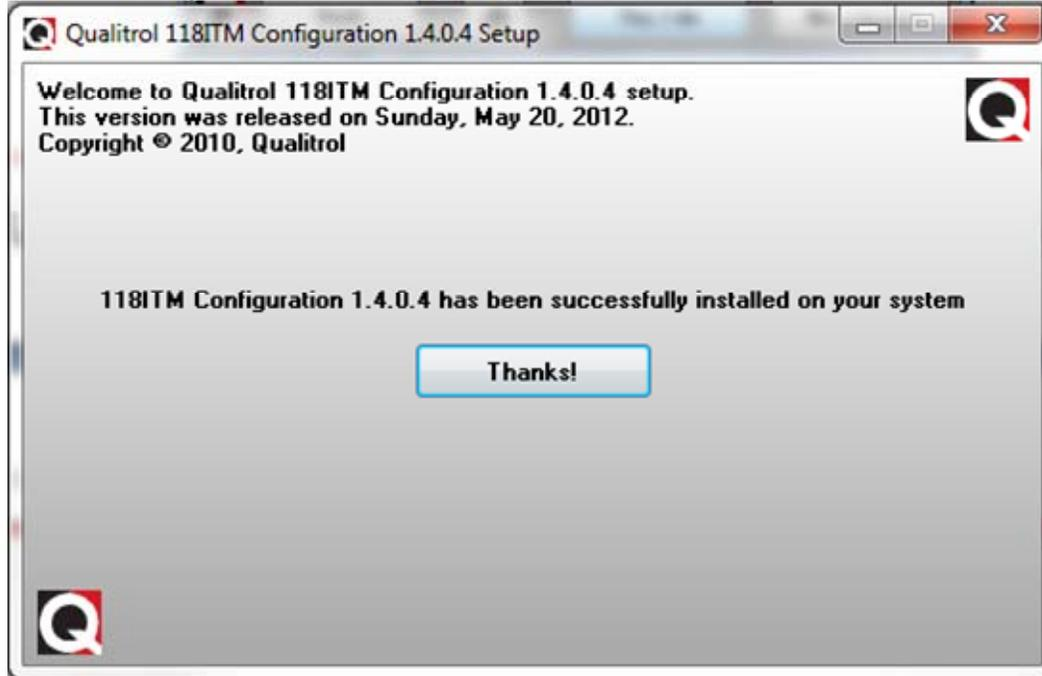
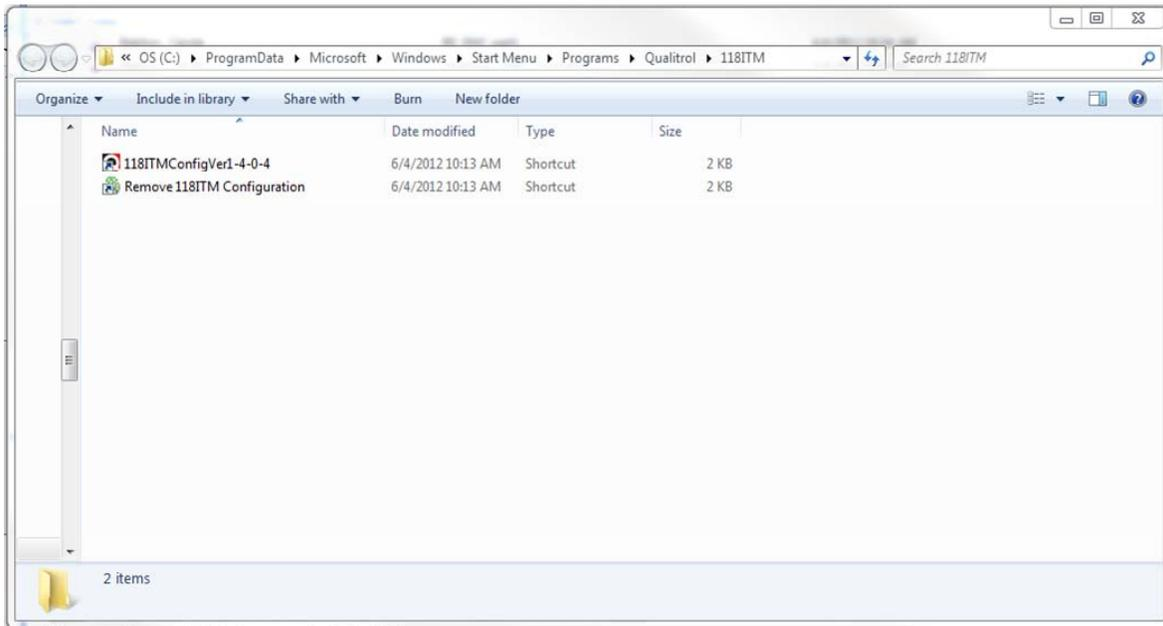

Figure 17 Final Install Window
Figure 18 118ITM Qualitrol Folder
5. Clicking on the “Thanks!” button, shown in figure 17, will complete the software installation and bring up the “**C:\Program Files\QUALITROL\VTM118**” directory (figure 18). Here the user will find the 118ITM shortcut and software uninstall option.